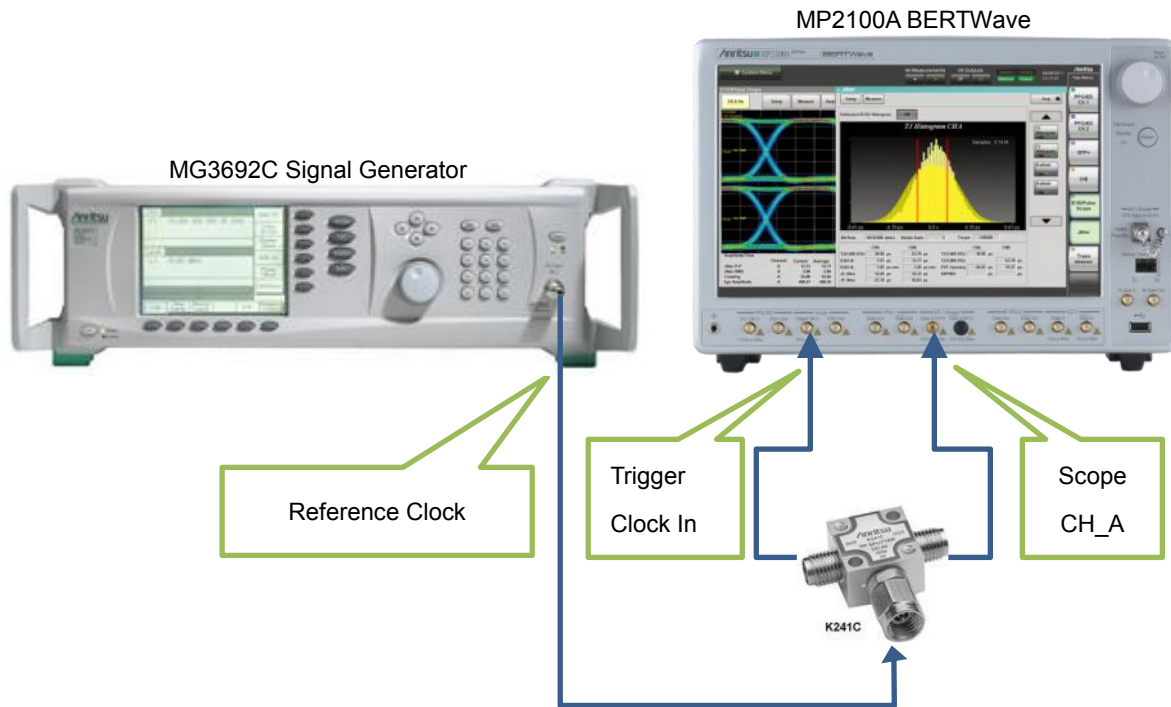
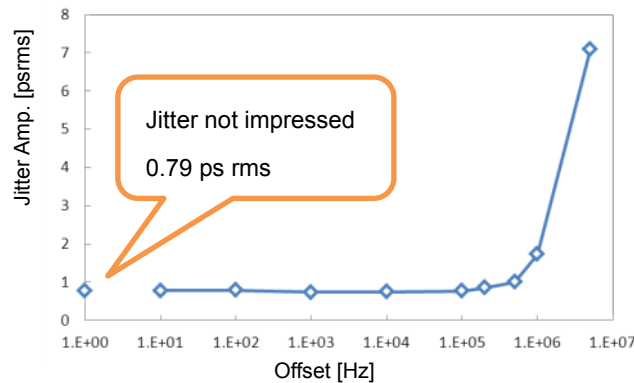

Figure 2. Intrinsic Jitter Measurement Setup for MP2100A Sampling Scope
Figure 12. MG3690C Signal Generator Phase Noise
The Sampling Scope intrinsic jitter is mainly due to the random jitter component  $RJ$  of the scope trigger clock circuit. This section explains the measurement of the  $RJ$  of the trigger clock circuit for use as the correction factor using an external synthesizer. Figure 2 shows the setup at intrinsic jitter measurement, assuming use of a bit rate of 10.3125 Gbit/s.
- (1) Use a power splitter to divide the Signal Generator clock output and input the clocks to Trigger Clock Input and Scope CH\_A connectors of the MP2100A (Fig. 2).
- (2) Set the Signal Generator frequency to 5.15625 GHz (half frequency of 10.3125 GHz), the Power to +4 dBm and the Output to ON.
- (3) Open the [Time] screen of the EYE/Pulse Scope and set Divide Ratio at the Rate tab to x2.
The reason why the modulation frequency integrated band is 1 MHz or more is because with this measurement method jitter at modulation frequencies below 1 MHz can be ignored. In the measurement setup shown in Figure 2, the measured intrinsic jitter is  $0.79$  ps rms. With the same setup, the jitter from the signal generator is  $20$  ps p-p ( $7.071$  ps rms) and when this modulation frequency is changed from  $10$  Hz to  $5$  MHz, the jitter observed at the MP2100A is shown in Fig. 12. Based on this result, at jitter modulation frequencies below  $1$  MHz, the observable jitter is the same whether jitter is impressed or not.